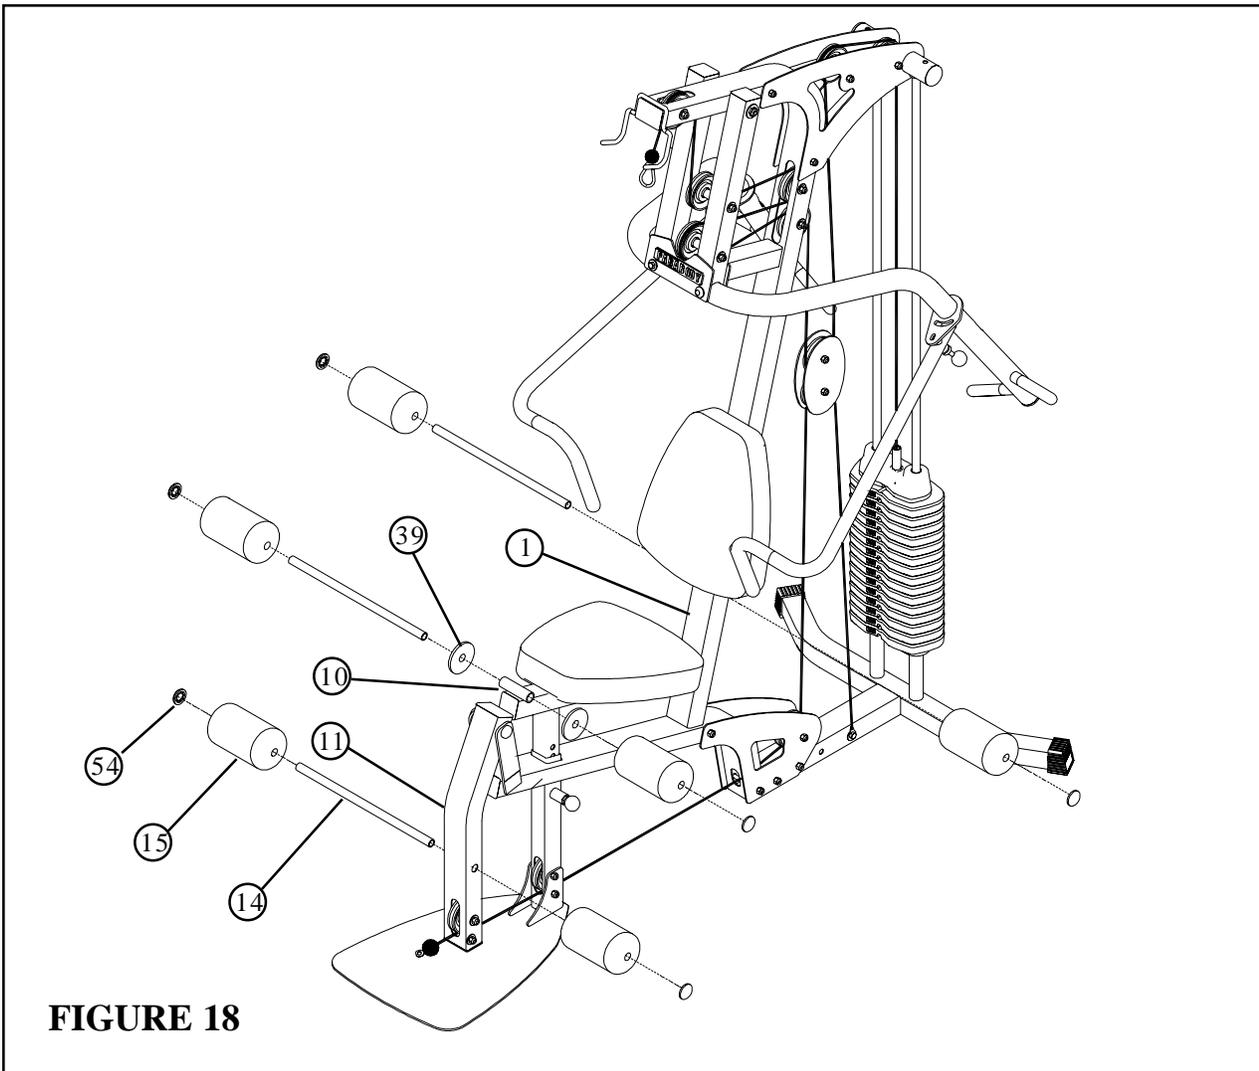

**FIGURE 17**
- Assemble one 3-1/2” PULLEY (24) between BASE PLATES (3) using one 3/8 X 3-3/4” BOLT (30), two 3/8 X 1” SPACERS (43), one 3/8” LOCK NUT (34) and tighten securely.
- Loosely assemble one 3-1/2” PULLEY (24) between the PULLEY PLATES (12) using one 3/8 X 1-3/4” BOLT (27), and one 3/8” LOCK NUT (34).
- Secure end of LOW CABLE (21) using one 3/8 x 3-3/4 BOLT (30), one 3/8” FLAT WASHER (36) one 3/8” LOCK NUT (34) as shown in FIGURE 17
- Tighten both 3-1/2” PULLEYS (24) located on PULLEY PLATES (12)